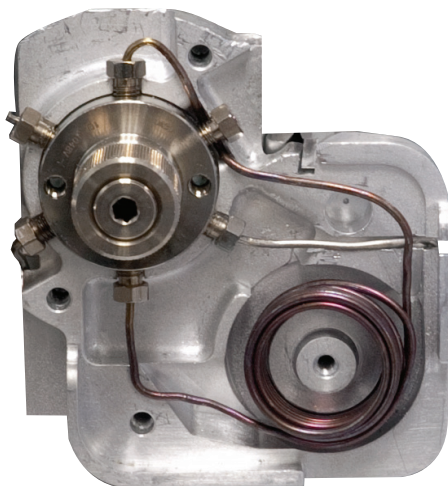

Figure 21. Correct sample loop placement in the sample loop block
- 12 With the sample loop in front of the 6 port valve, connect both ends of the new sample loop to positions 1 and 4 as shown in **Figure 21**.
- 14 Rotate the sample loop towards the sample loop block (to the right). Fit the upper end of the sample loop over and behind connection 5 on the valve. Continue rotating the sample loop until it fits into the recessed fitting in the sample loop block as shown in **Figure 21**.